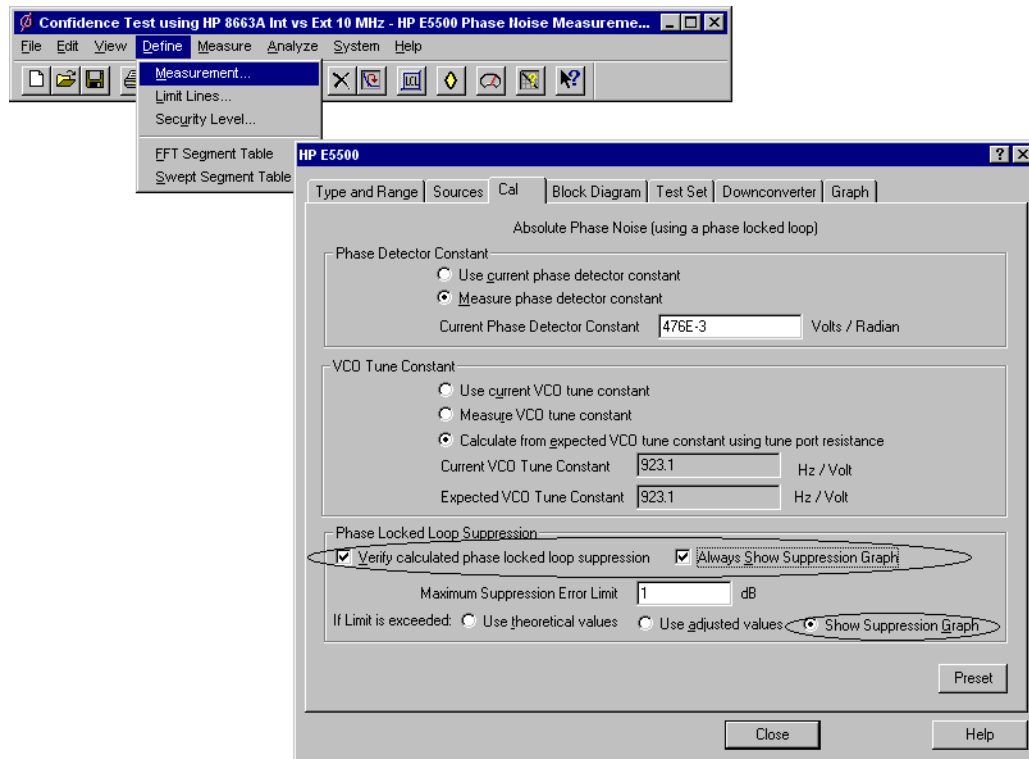

Figure 7-4 Selecting Loop Suppression Verification
- 1 Using Figure 7-4 as a guide, navigate to the **Cal** tab.